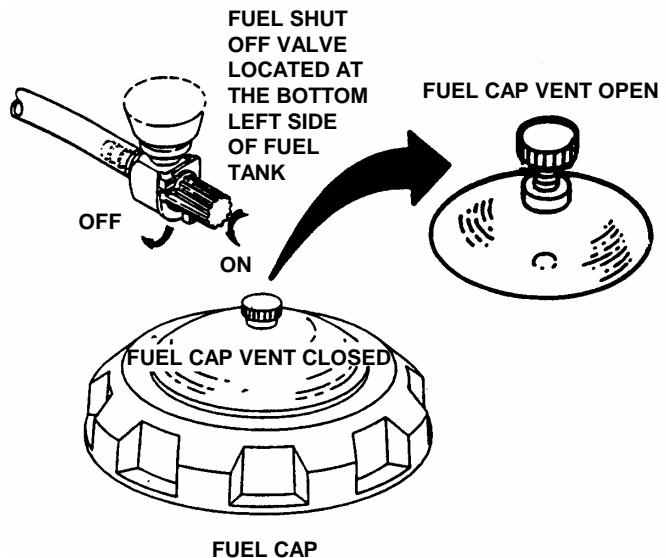

FIGURE 2.3
**2.1.6.** Add fuel to tank of the YARD CRUISER outside where fumes can safely dissipate. Make sure fuel filler cap is tight and vent is open after refueling. Turn fuel shut off valve to the "OPEN" position. See Figure 2.3. Refer to engine owner's manual for fuel specifications.
4. Open vent on fuel filler cap by turning counterclockwise. **IMPORTANT:** Failure to open vent on the fuel filler cap can cause engine to stall. Refer to Figure 2.3.
5. Turn fuel shut off valve to the open position. Refer to Figure 2.3.
1. Make sure fuel cap is on tight and vent is closed. Turn fuel shut off valve to the "CLOSED" position. Start engine and allow it to run until engine runs out of fuel. Close vent on fuel filler cap. See Figure 2.3, Page 6.